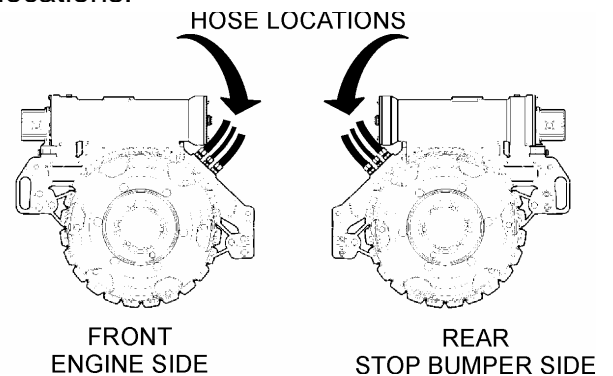

Figure 5. Hose/Fitting Locations
5. Reference Figure 5 for hose and fitting locations.